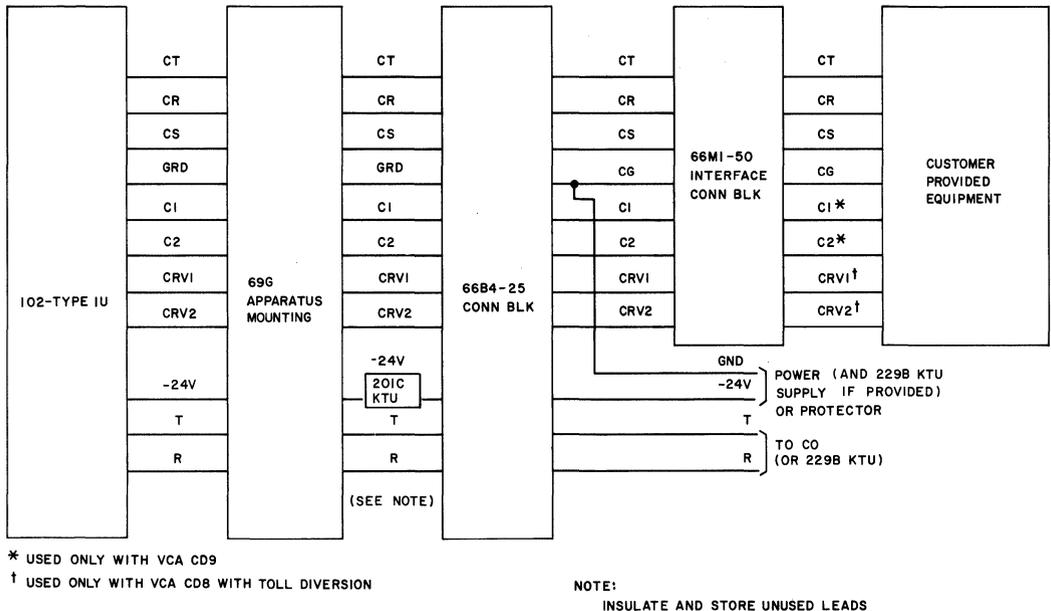

Fig. 9—Block Diagram—69G Apparatus Mounting With 102-Type Interconnecting Unit
69G Apparatus Mounting (Fig. 9 and 10)
3.01 ¶The 69G apparatus mounting is not recommended for new installations. To provide additions to existing installations, refer to Fig. 9 and 10 for connections required. Separate fusing and -24 volt power are provided locally.¶